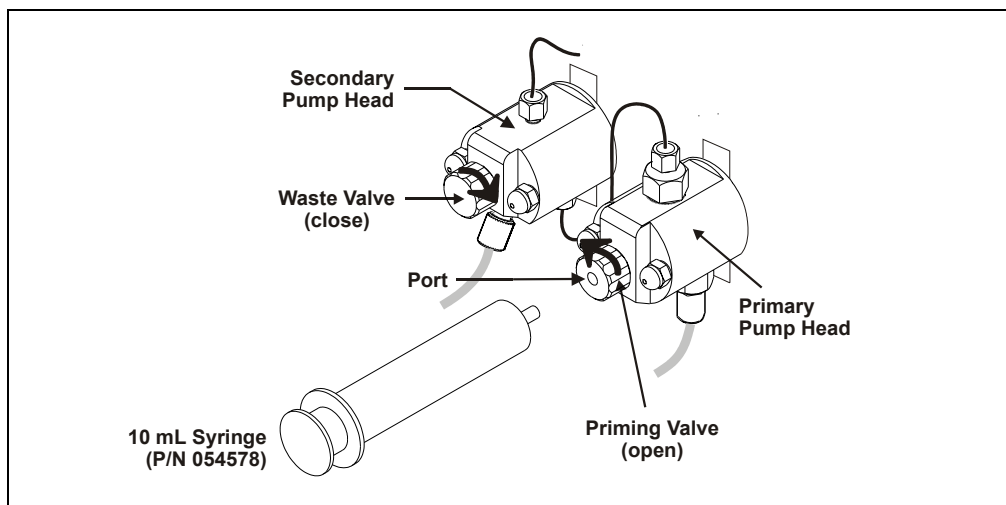

Figure 23. Priming the Eluent Lines
2. Connect a 10 mL syringe (P/N 054578) to the port in the priming valve on the primary pump head (see Figure 23).